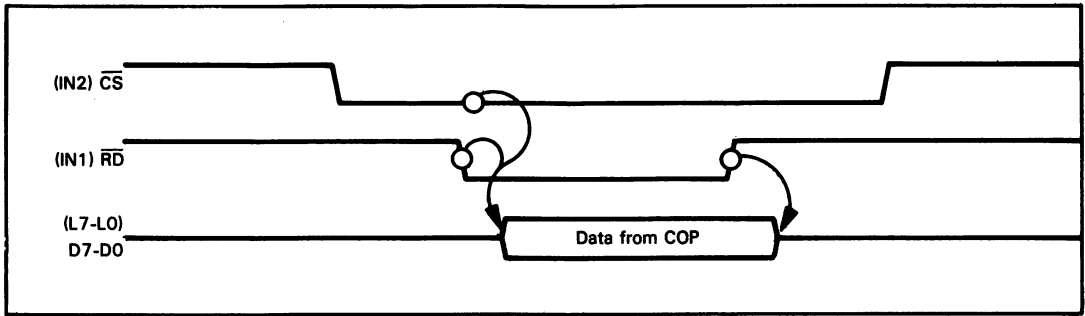

Figure 1-11. MICROBUS® Read Sequence
**The COP402M, COP420, COP420C, and COP440 can also be mask programmed for a MICROBUS® interface.** When this option is selected, bits 1, 2, and 3 of IN are no longer general purpose inputs, and bit 0 of G becomes a dedicated output. The L port becomes an 8-bit bus port used for bidirectional data transfer. Line IN1 becomes a read control signal, designated  $\overline{RD}$ . When this line goes low it causes the COP to drive the transfer bus (L port) with the data currently in the Q register. IN3 is used as a write control signal, designated  $\overline{WR}$ . When this line goes low the current state of the transfer bus (L port) is latched into the Q register. IN2 becomes a chip select line, designated  $\overline{CS}$ . A low input at IN2 causes the COP to become selected. When it is selected, IN1 and IN3 act as read/write control signals, as outlined above. Line G0 becomes a ready output, designated INTR. This output is reset each time a  $\overline{WR}$  pulse is accepted by the COP. INTR is used to provide the necessary synchronization between a host CPU and the COP during asynchronous data transfer. The timing of the MICROBUS® data transfers is quite simple. Figure 1-11 shows a read operation and Figure 1-12 shows a write operation. Detailed timing specifications appear in the data sheets at the end of this chapter.